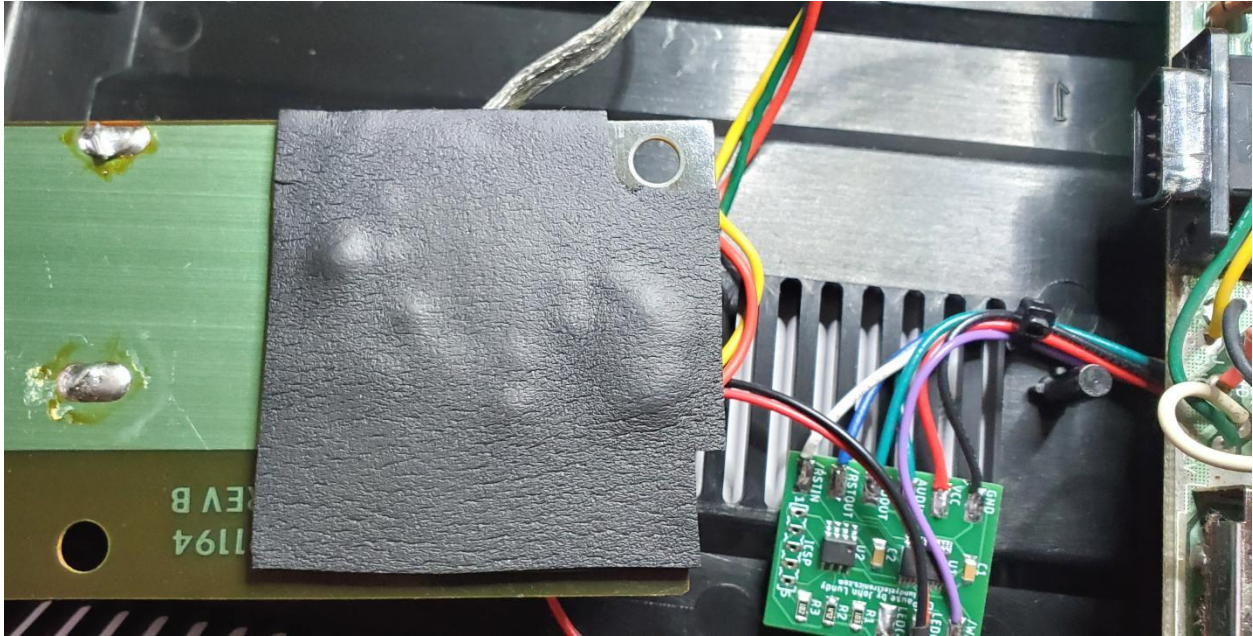

Figure 14: Placement of RF modulator PCB insulator
Step 11: Install the RF modulator PCB insulator to the bottom of the PCB as shown in **Figure 14** and mount PCB.